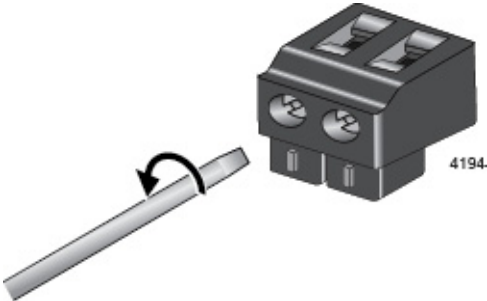

Figure 38. Loosening the Wire Retaining Screws on an Alarm Connector
- 4. Loosen the wire retaining screws in the connector with a #1 screwdriver. Refer to Figure 38.